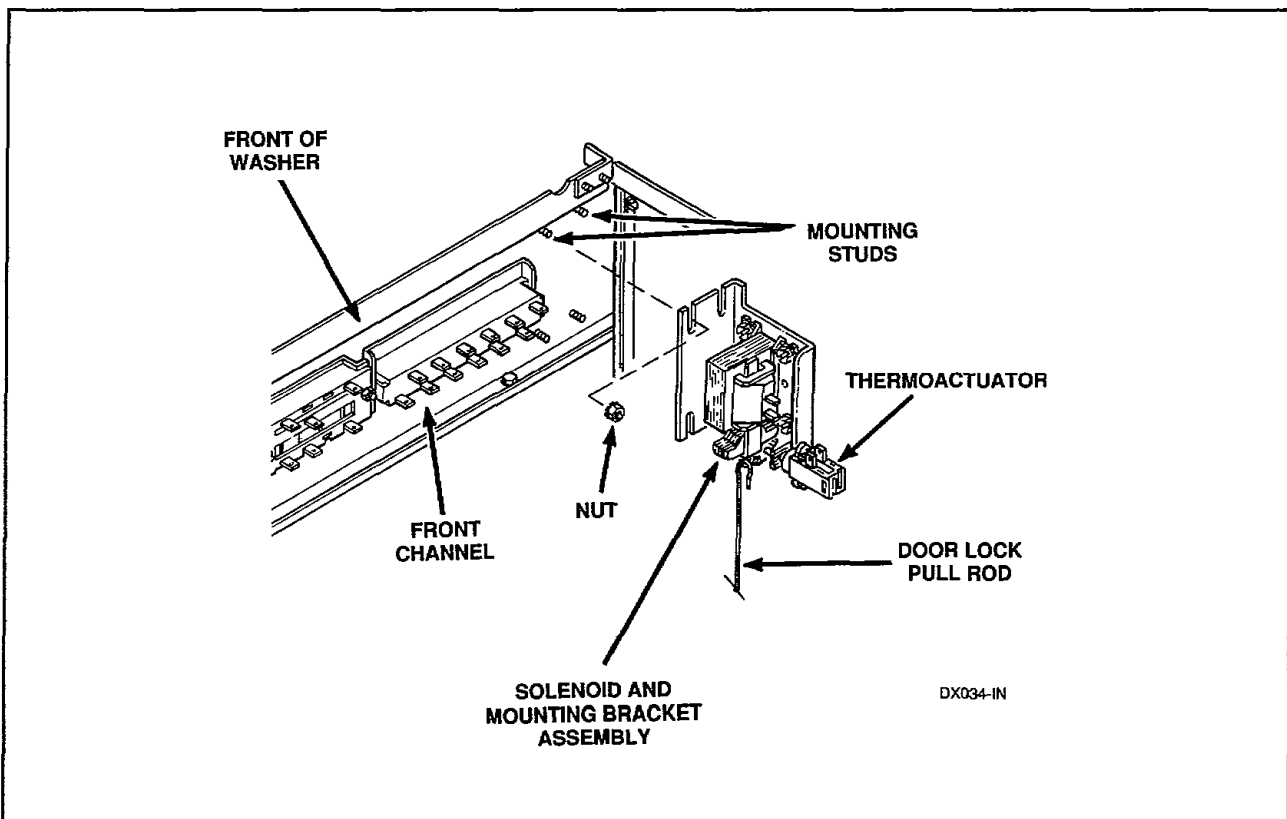

Figure 16
- c. Disconnect wires from solenoid and thermoactuator, *Figure 16*.
- d. Remove nuts holding solenoid and mounting bracket assembly to backside of front channel, *Figure 16*; then release pull rod from solenoid plunger and remove solenoid and mounting bracket assembly from washer.
- k. Remove nuts holding door lock solenoid and mounting bracket to backside of front channel and release pull rod from solenoid, *Figure 16*.